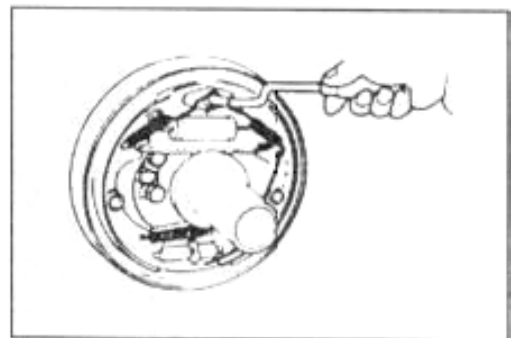

Fig 6-21
(7) Mount the compressed spring onto the hand brake push rod, and then install the push rod onto the brake shoe.
(8) Mount the guide plate of brake shoe onto the support pin, and then install the return spring of brake shoe (Fig 6-21)